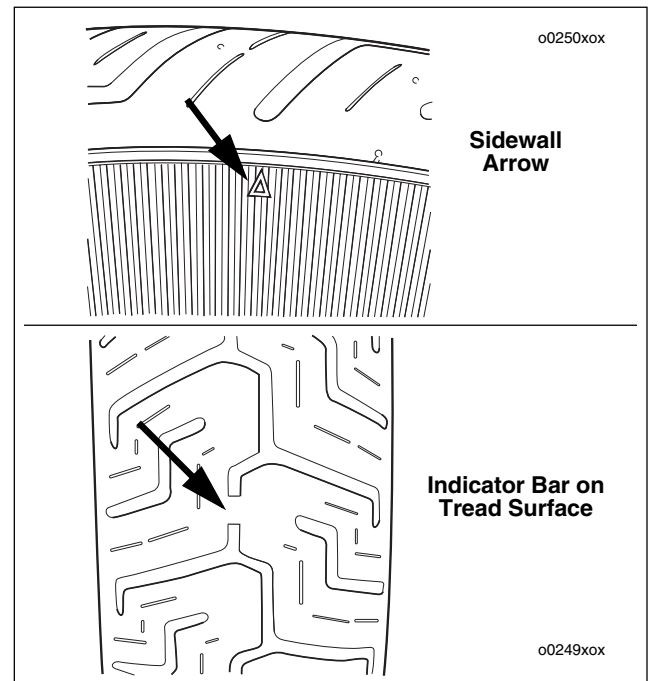

Figure 1-4. Tread Wear Indicator Bars
- a. Locate the arrows on the tire sidewalls. The arrows point to location of the tread wear indicator bars. See upper frame of Figure 1-4.
- b. Immediately replace tires if any tread wear indicator bar is on the tire tread surface, indicating that 1/32 inch (0.8 mm) or less of tire tread pattern remains. See lower frame of Figure 1-4.